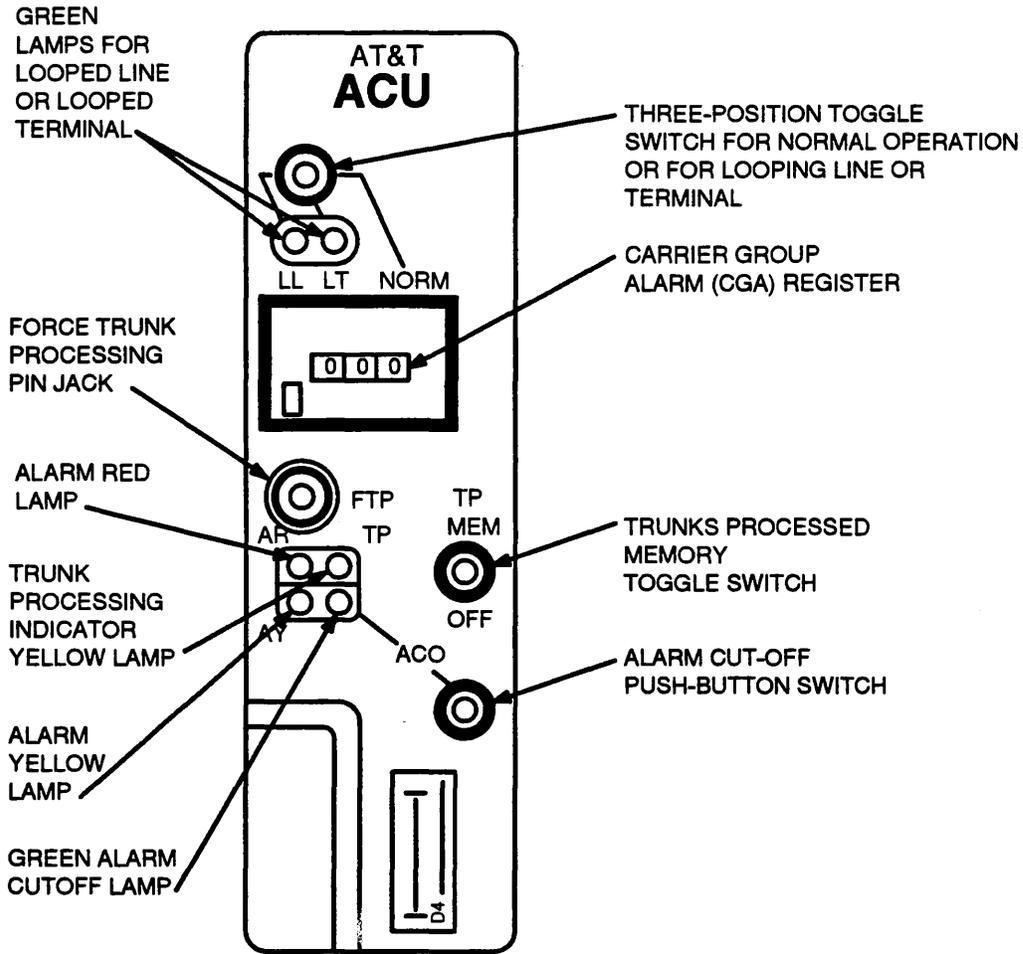

Figure 1—J98726AC-2, L2, A Alarm Control Unit Faceplate
- Detects alarm conditions and provides indications on the faceplate (Figure 1)
The push-button switch (**ACO**) on the faceplate (Figure 1) allows for turning off bank and office alarms except when the alarm is caused by a failed fuse. When the alarms are turned off, a green lamp (**ACO**) on the faceplate lights. If the alarm is caused by a failed fuse, pushing the **ACO** button does not light the **ACO** lamp. The **AR** and **AY** lamps remain lighted until the trouble is cleared.
The ACU control and display (indicators) features are provided through lamps, a toggle switch, a push-button switch, and a pin-jack on the ACU faceplate (Figure 1).
The **LL LT NORM** toggle switch on the faceplate (Figure 1) is provided to aid in locating trouble. It is functional only after trunk processing has occurred (normally as a result of an **AR** or **AY** alarm) and the **ACO** switch has been activated.